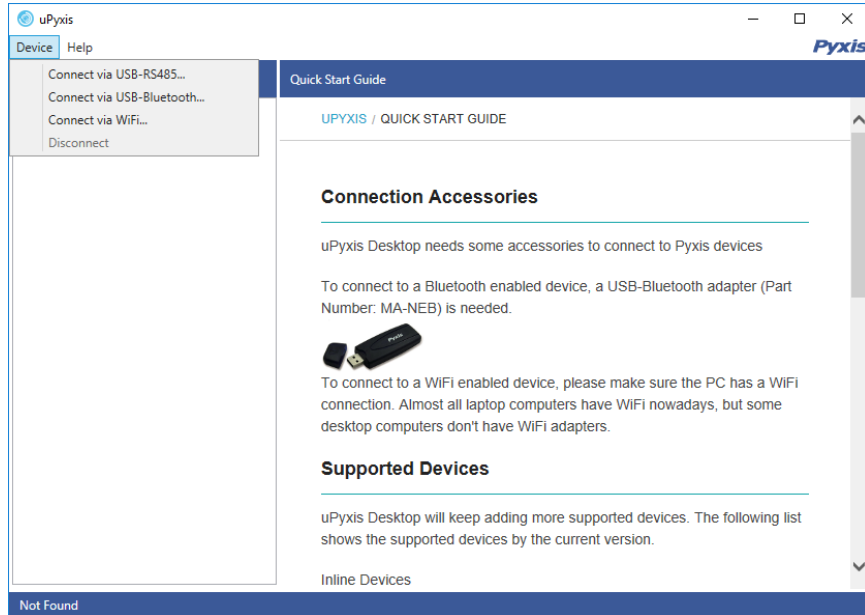

Figure 21. Connect uPyxis PC app to CR-200/300
Launch the **uPyxis** app and select the proper connection means to establish the connection to the sensors as shown in figure 21.
3. On uPyxis Desktop, click menu Device -> Connect via WiFi as shown in Figure 21.
4. On uPyxis Desktop, click menu Device -> Connect via Bluetooth as shown in Figure 21.